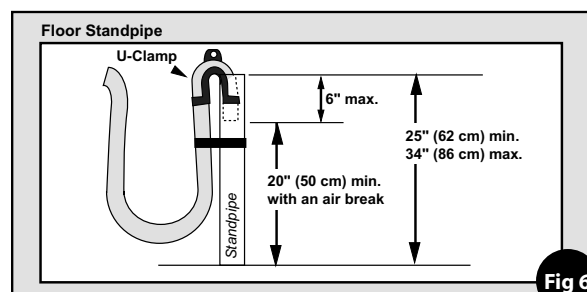

Fig 6
It is possible for the water to be discharged into a sink, standpipe or drainpipe, but an air break must be available at a minimum 20" height to prevent the machine from siphoning (Fig. 6).
- Insert the outlet end of the drain hose into the standpipe, wall or floor drain (Fig. 6). NOTE: The outlet end of the drain hose MUST be at least 20" (50 cm) above the base of the machine. No more than 6" of the drain hose should be inserted into the drain pipe to prevent siphoning.